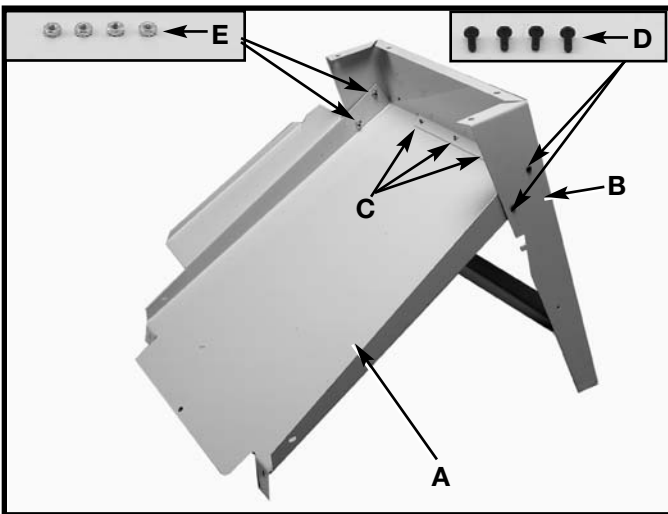

Fig. 5
2. Insert four #10-32 x 1/2" screws (D) Fig. 5 through support panel and dust chute. Install four #10-32 hex nuts (E) Fig. 5. **IMPORTANT:** The front stand panel should be assembled with the Warning Label facing the front of the saw. Do not completely tighten the stand hardware at this time. Also, make certain the dust chute/support panel (A) Fig. 5, is located under the lip of front stand panel (B) and the sheet metal screws (C) point up.